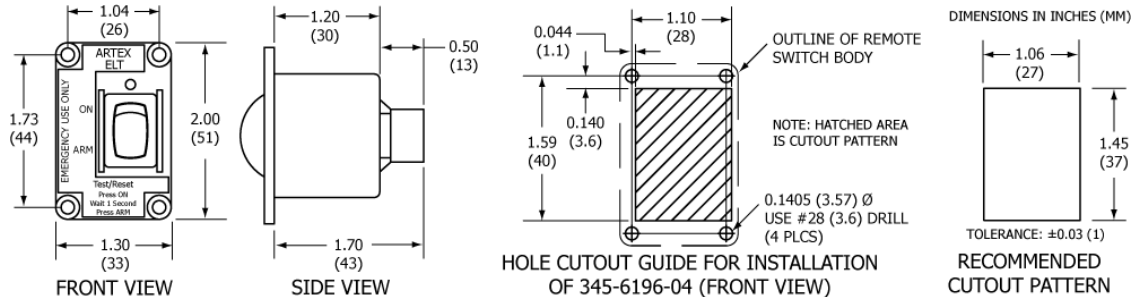

Figure 19 Remote Switch Outline and Dimensions
- 3) The switch assembly requires a space approximately 2.0 x 1.3 in. (51 x 33 mm) on the panel surface and behind the panel. See Figure 19.
- 1) Mark the cutout on the cockpit panel. See Figure 19 on page 46.